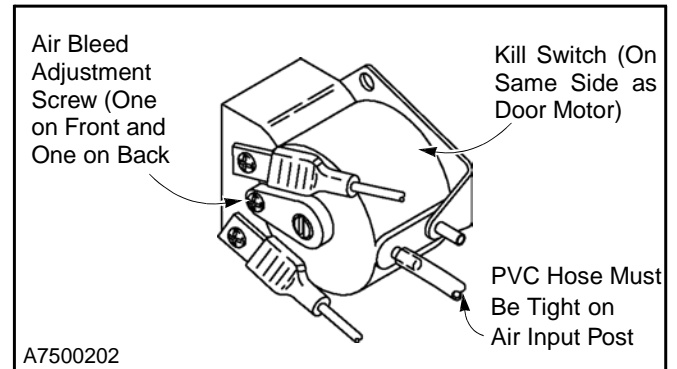

Figure 46
2. Make sure the clear PVC hose is tight on the air input post so that air leakage cannot occur and vibration will not cause the hose to fall off. Also make sure the hose is not kinked. (See Figure 46.)
3. The air bleed has been set at the factory and should not require adjustment. To adjust the air bleed, turn the air bleed adjustment screws located on the front and back of the switch fully clockwise, but do not overtighten. Then turn each screw counterclockwise one full turn. (See Figure 46.)